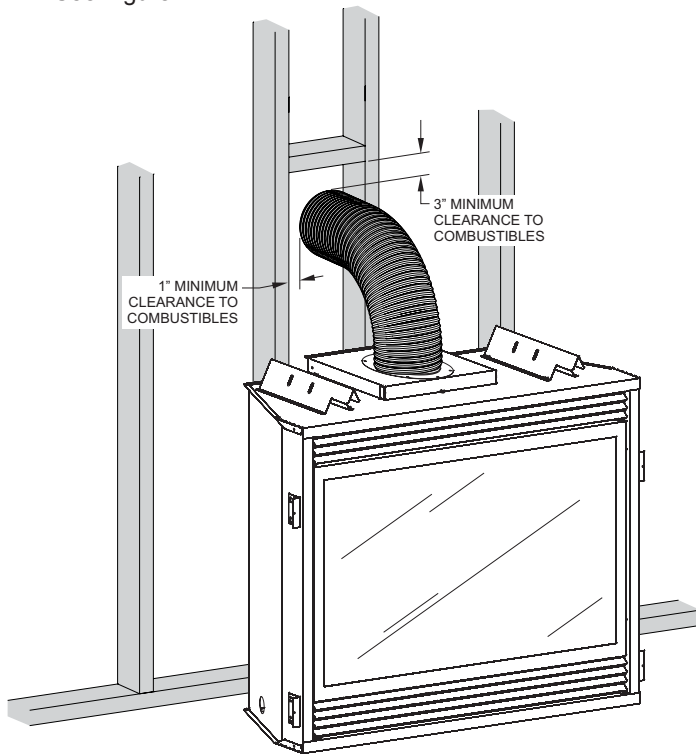

Figure 1
- 4a. Install the Wall Firestop/Thimble to the framed wall assembly using common nails (not supplied) as required through the wall. Refer to the venting charts in the fireplace manual to determine the proper height and size of the vent opening. The minimum framed opening should be 9" wide by 11" high for the DVVK-4F kit, or 10" wide by 12" high for the DVVK-5F kit. The minimum combustible clearance from the horizontal vent is 1" from sides and bottom, and 3" above the vent pipe. See Figure 1.